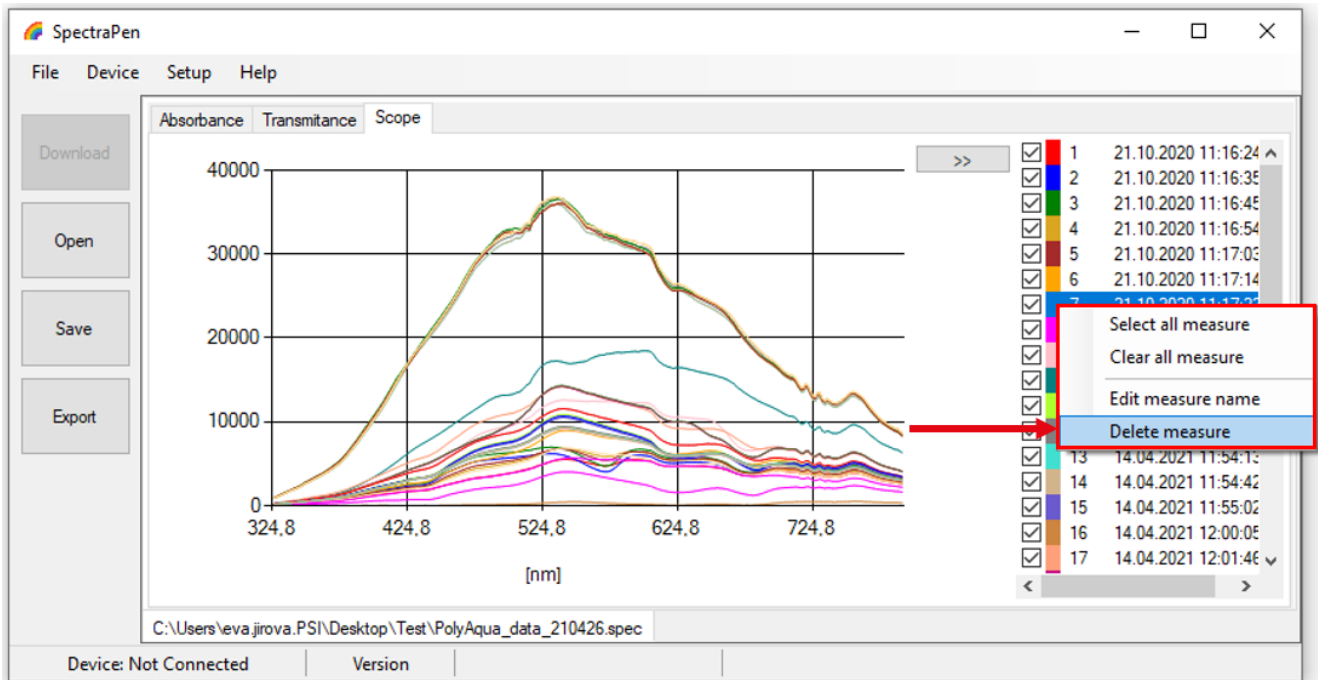

Fig. 28 Option for list of data.
7. Right click on list of measured data enables **edit data name**, **delete** selected measurement or **show and hide** all measured data in the graph- Select all measure and Clear all measure (Fig. 28).